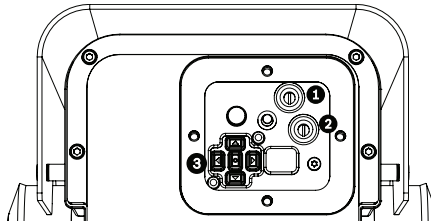

Figure 6.2 Controls for focal length, focus, and camera set-up
2. Open the access panel. Now you can adjust the focus and focal length (see *Figure 6.2* below).
1. Use the top set screw (item 1, *Figure 6.2*) to adjust the image focus:
2. Use the lower set screw (item 2, *Figure 6.2*) to adjust the focal length (tele or wide):